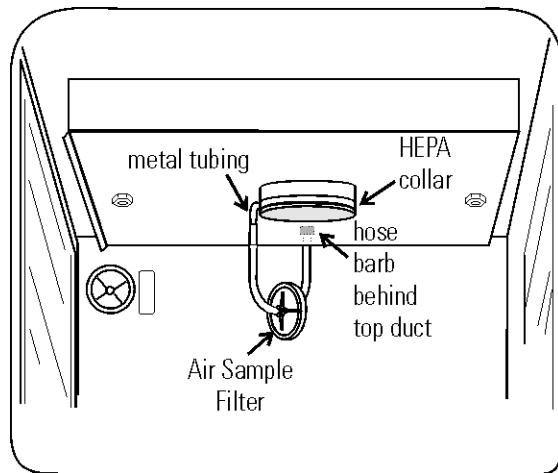

Figure 1-13. Air Sample Filter Installation
3. Insert the other end of the filter assembly onto the metal tubing on the top duct. Refer to Figure 1-13.
3. Install the filter as shown in Figure 1-13. Refer to Section 5 for HEPA filter maintenance.